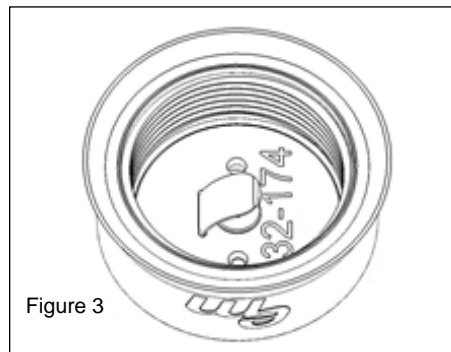

Figure 3
#### 4. Tuning and Installation (Figure 3):
- Verify contact spring is completely extended. If necessary, adjust by pulling the contact outward. (Figure 3).